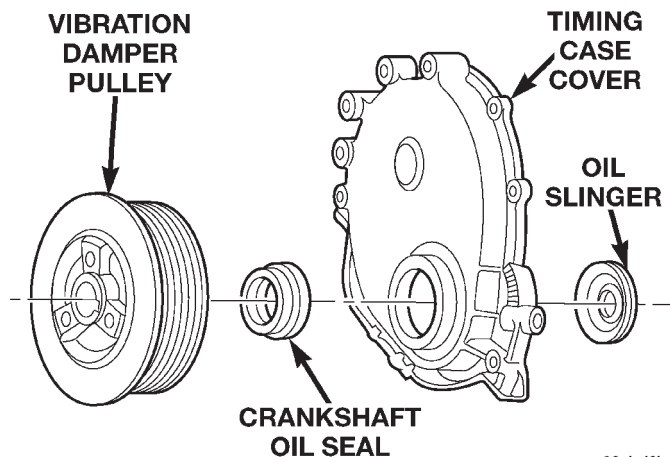

Fig. 43 Timing Case Cover Components
- (1) Disconnect battery negative cable.
- (2) Remove accessory drive belt (Refer to Group 07, Cooling System for proper procedure)
- (3) Remove the accessory drive brackets that are attached to the timing case cover.
- (4) Remove the fan and hub assembly and remove the fan shroud.
- (5) Remove the A/C compressor (if equipped) and generator bracket assembly from the engine cylinder head and move to one side.
- (6) Remove the vibration damper (Fig. 43).
- (7) Remove the oil pan-to-timing case cover bolts and timing case cover-to-cylinder block bolts.
- (8) Remove the timing case cover and gasket from the engine.
- (9) Pry the crankshaft oil seal from the front of the timing case cover (Fig. 43).